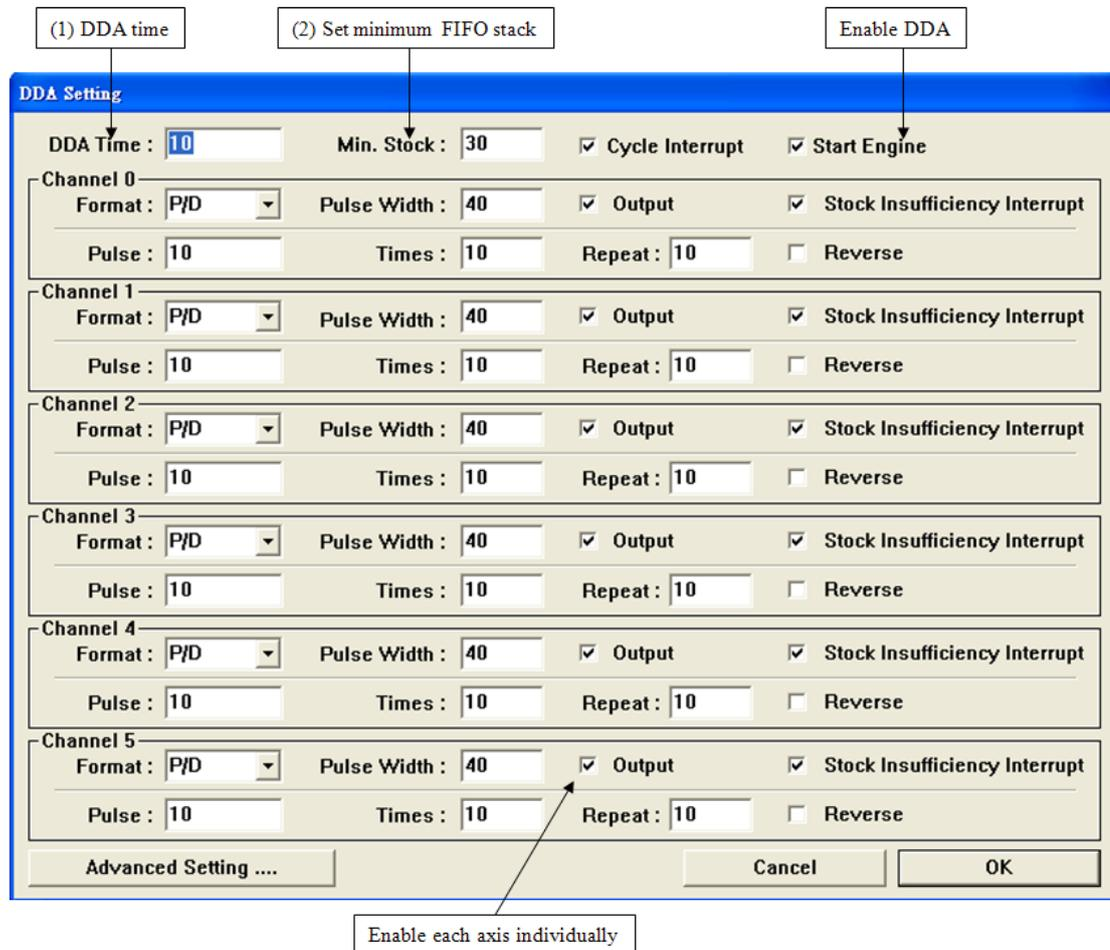

Figure 4-3.1
(1) Set DDA time (as shown in Figure 4-3.1)
(3) Set DDA start/stop (as shown in Figure 4-3.1)